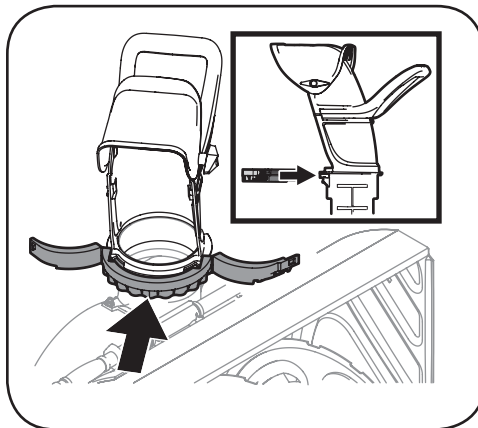

Figure 3-5
5. Install the chute band as shown in Figure 3-5.